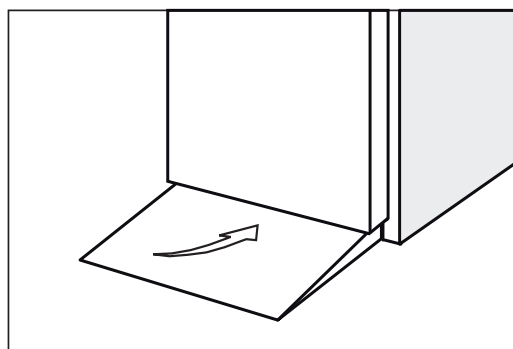

Fig.6
- place the access ramp (Fig. 6)
Modify parameter (Fig.6)